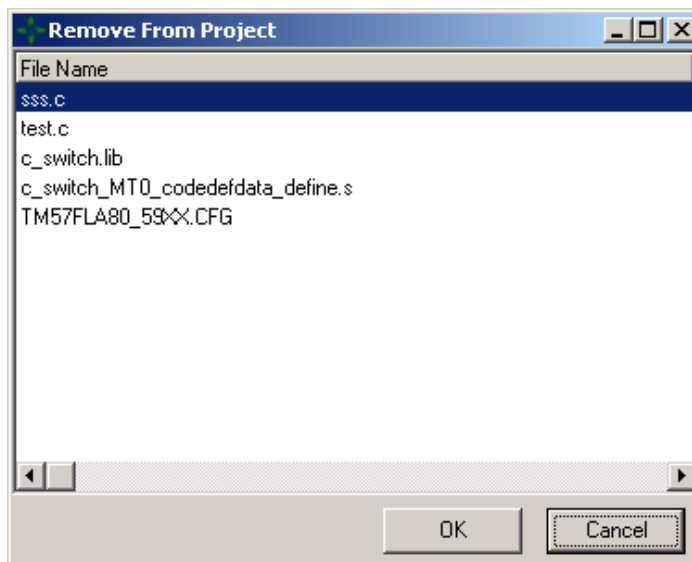

Figure 2.2 Remove from project dialog
There are two ways to remove files from the project: (1) tap out on the Project|Remove menu item and IDE will pop-up a project files window (Figure 2-2), allows users to remove files, or (2) within the tree of "project management", click the file item which will be removed, then right-click, in the pop-up menu, select "Remove" menu item. It only removes the specified files from the project tree, but the file is not actually deleted from the file storage directory.